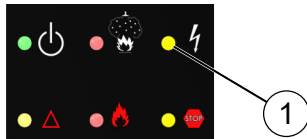

Fig. 22: "Failure" LED
8. ➤ Check whether the "Failure" LED (Fig. 22/1) lights up and the display shows "Failure tank triggering".